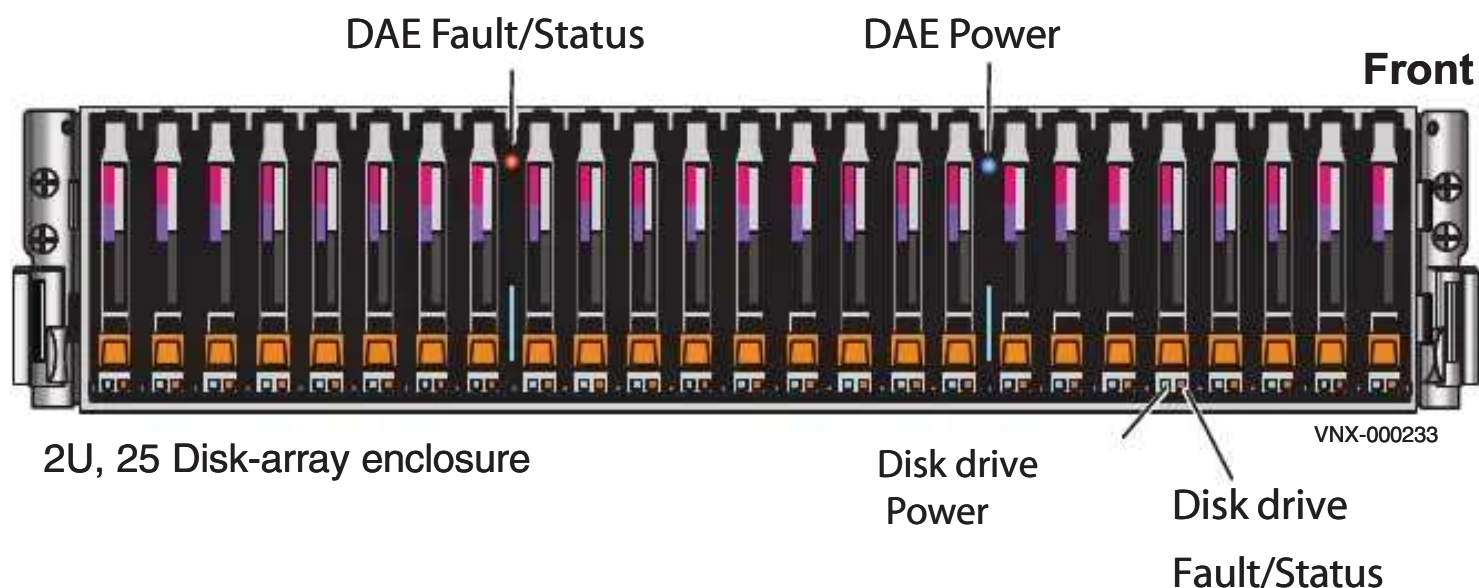

Figure 26 2U, 25 2.5" drive DAE LEDs
1. Verify that the status of the 2U DAE Power LED located on the front is solid blue and the DAE Fault/Status is off as shown in Figure 26.